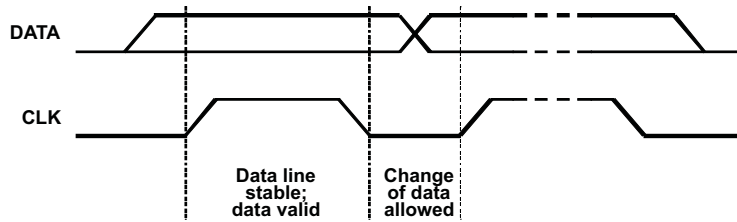
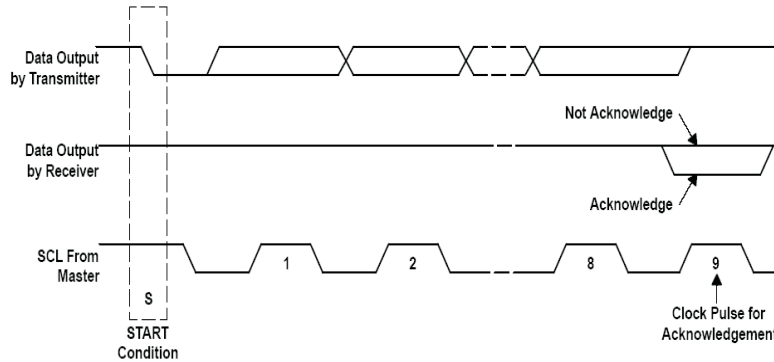

Figure 33. Bit Transfer on the Serial Interface
Figure 34. Acknowledge on the I2C Bus
The master then generates the SCL pulses, and transmits the 7-bit address and the read/write direction bit R/(W) on the SDA line. During all transmissions, the master ensures that the data is valid. A valid data condition requires the SDA line to be stable during the entire high period of the clock pulse (see Figure 33). All devices recognize the address sent by the master and compare it to their internal fixed addresses. Only the slave device with a matching address generates an Acknowledgment, ACK, (see Figure 34) by pulling the SDA line low during the entire high period of the SCL cycle. Upon detecting this Acknowledgment, the master knows that communication link with a slave has been established.